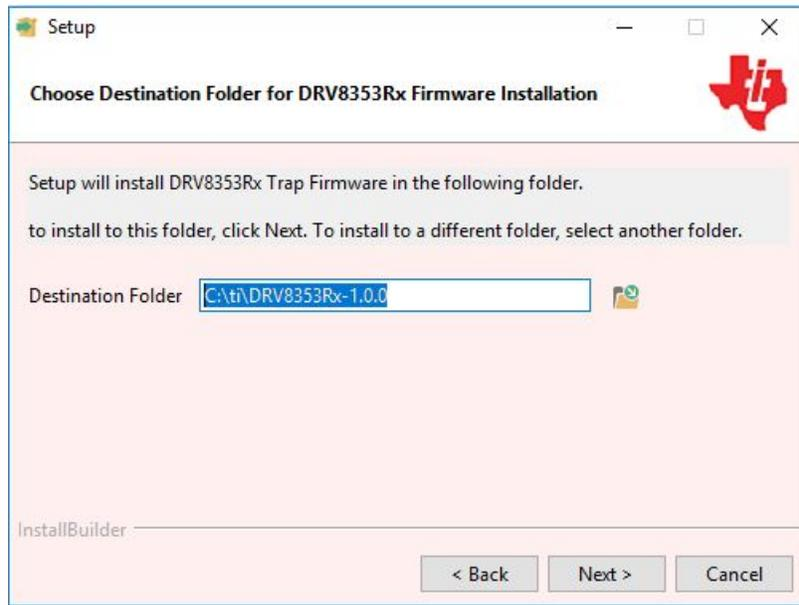

Figure 7. Installation Directory
Step 3. Select the destination location for the software packages (see Figure 7). This destination can be set to any location in the PC.